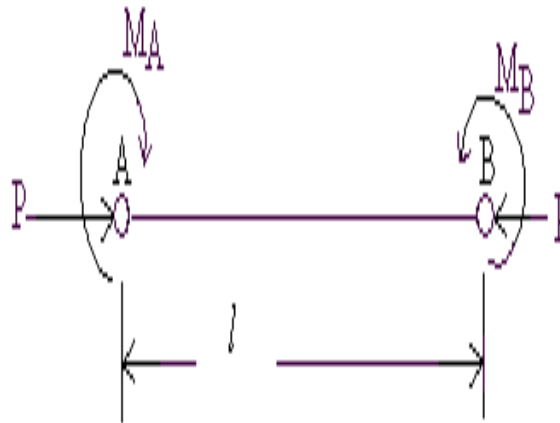

Figure 3
3. Figure 3 shows a rolled steel beam of an unsymmetrical I-section. If the maximum bending stress in the beam section is not to exceed 40 MPa, find the moment which the beam can resist. [16]